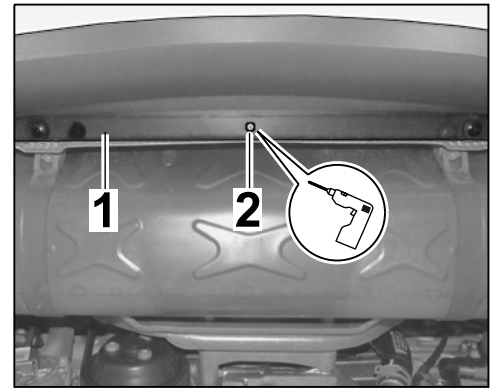

Figure 16
4.3.1 Remove lower retaining strip by drilling out blind rivet A3.2 x 17 (⇒ Figure 16).